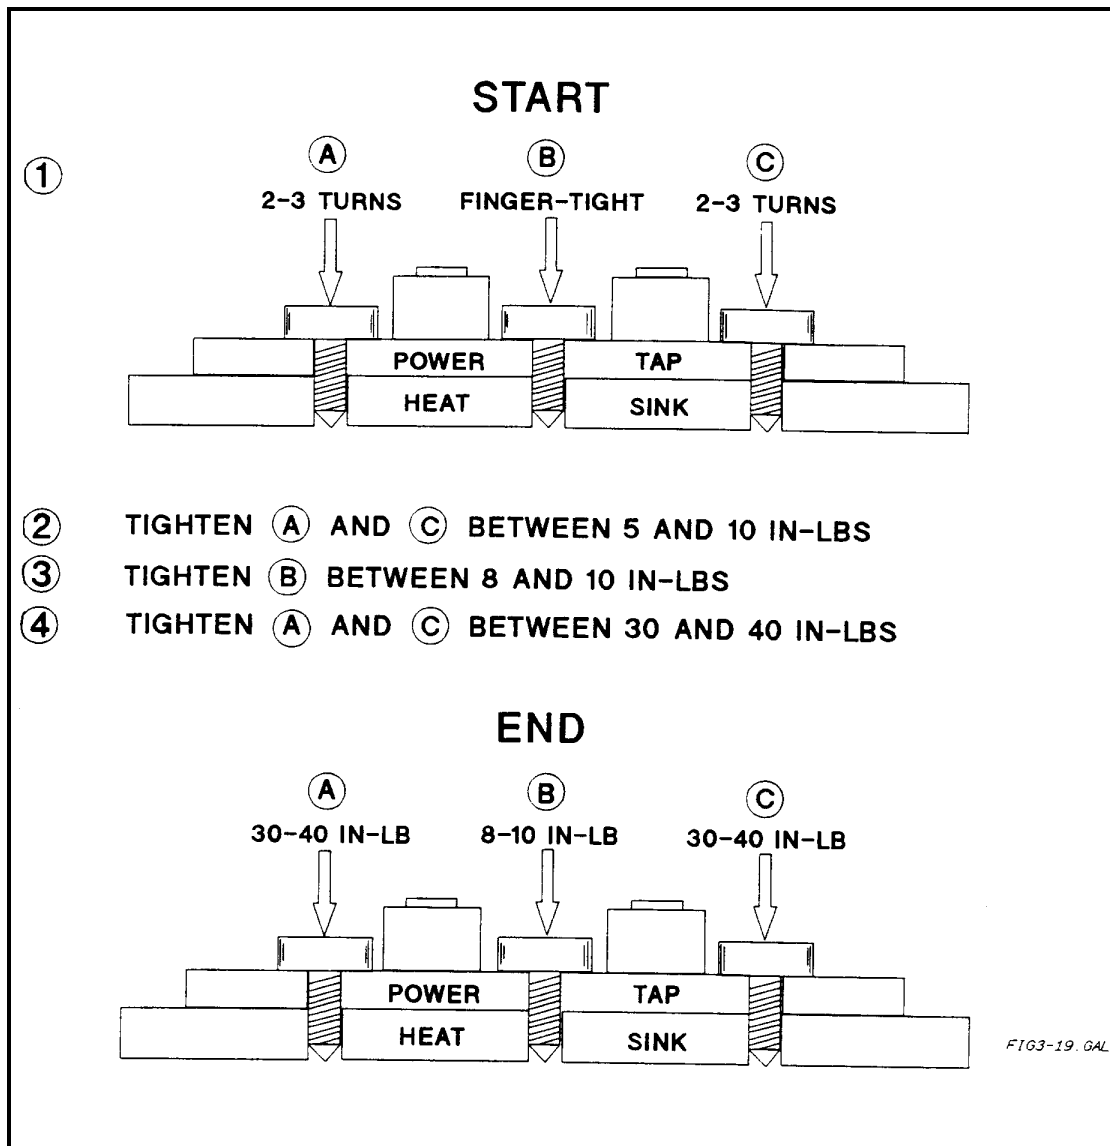

Figure 3-19. Proper Mounting Procedure for Output Rectifiers D900
3. Connect a dc voltmeter across A4TP1 and A4TP2 (see Figure 3-19). When the reading is 42 volts or less, it is safe to work inside the power supply.
Note	When replacing D900, follow the procedure given in Figure 3-19.